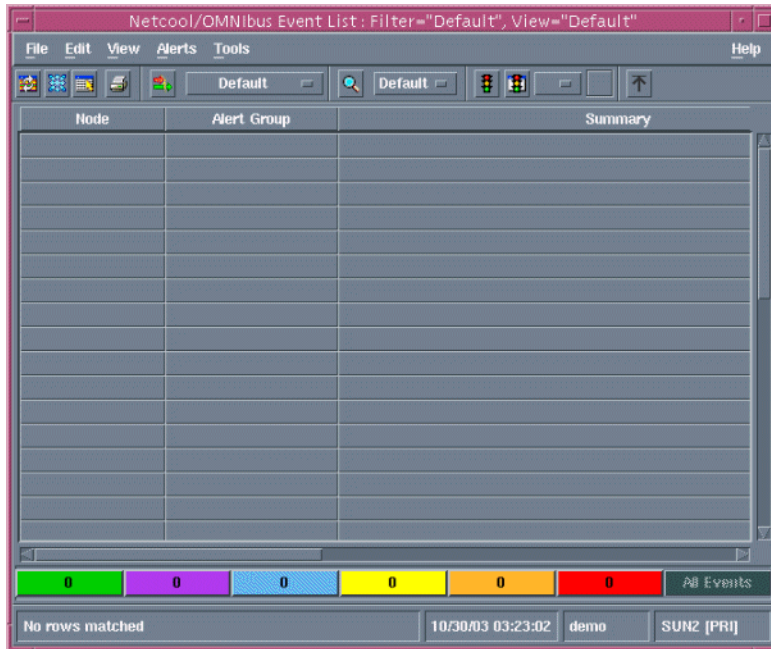

Figure 13. Event list window
3. Click the **View** button beside the **Default** drop-down list to display the default event list, as shown in Figure 13.